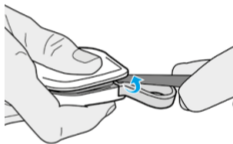

Fig. 4b
2. Then, slowly and firmly spread apart the two housing parts - Fig. 4b.